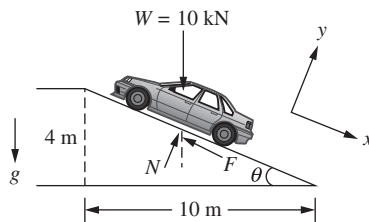

Figure P4.32 A vehicle parked on an inclined driveway for problem P4-32.
- 4-32.** A vehicle weighing 10 kN is parked on an inclined driveway, as shown in Fig. P4.32.